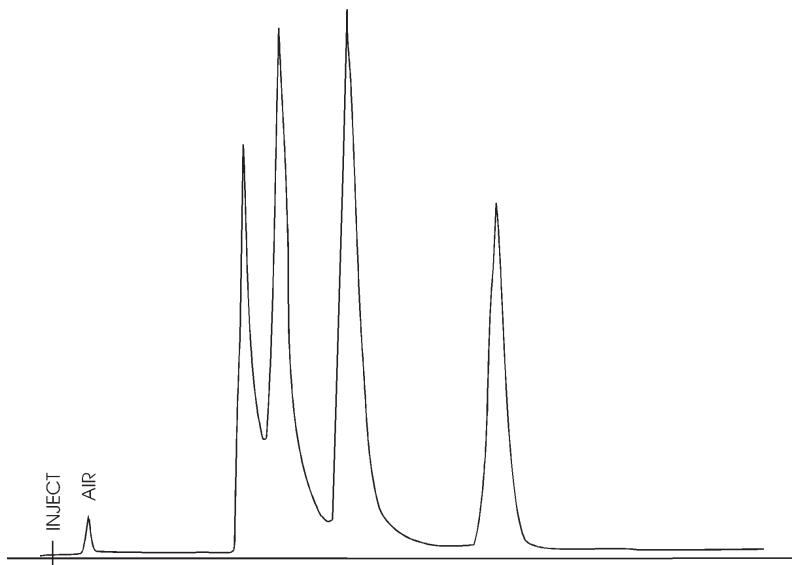

Figure 8-2
- E. Change the **POLARITY SWITCH**. Run the same sample on the other column, DC-200. This time the chromatogram will show four (4) peaks (plus air), but the spacing of the peaks will be different. The four components elute in exactly the reverse order that they did on the Carbowax column — *n*-propanol elutes first, 2-butanone second, etc. Verify this by again running the individual liquids. A typical chromatogram is shown in Figure 8-2.